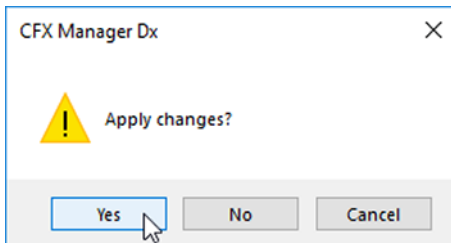

Figure 32: Confirmation dialog
9. Confirm to apply the changes by clicking **Yes** (see Figure 32).